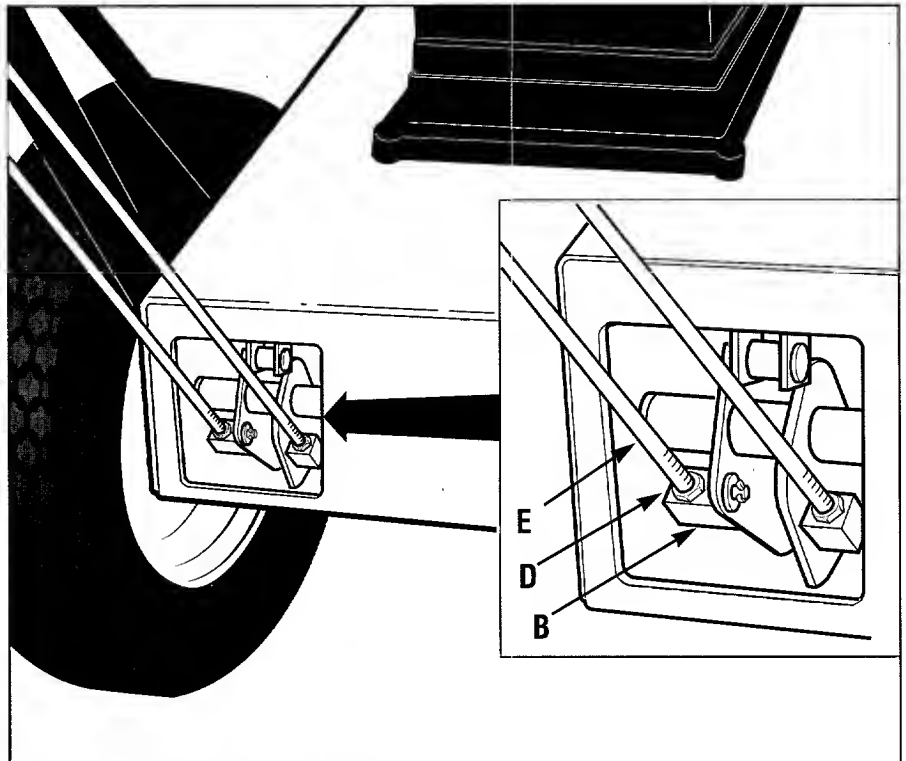

Figure 5-12: Wheel drive belt adjustment.
3. Loosen jam nut (D, Figure 5-12).
4. Thread rod (E, Figure 5-12) one or two turns clockwise for more tension or counterclockwise for less tension.
6. Retest wheel traction. Repeat adjustment procedure if necessary. Most comfortable operation will be obtained when the adjustment allows the lever to just make contact with the handgrip as sufficient belt traction is achieved. When adjustment is complete, tighten jam nut (D) firmly against block (B).